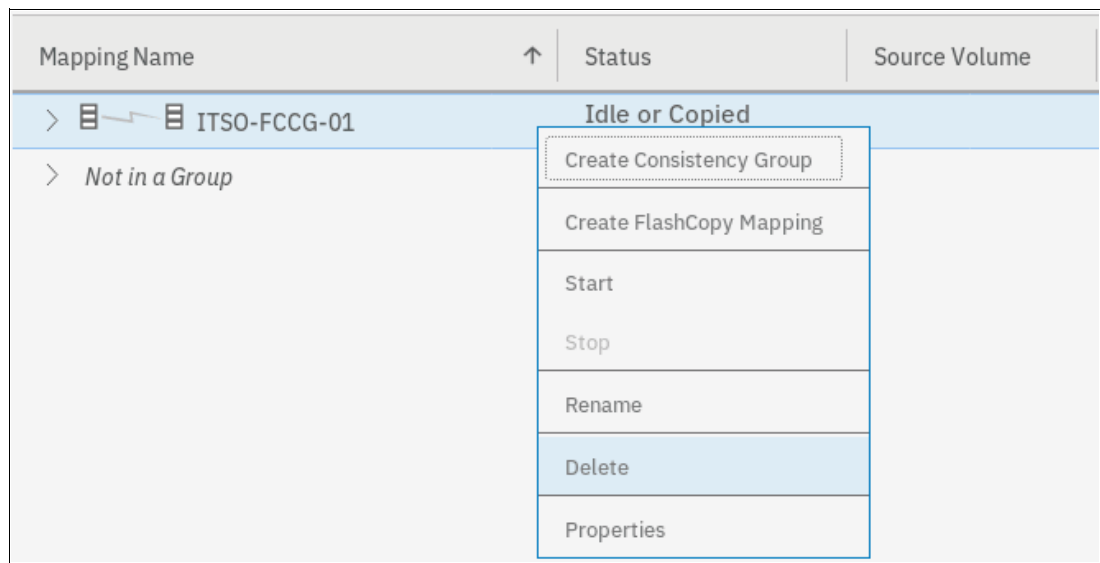

Figure 10-57 Deleting a consistency group
2. Right-click the consistency group that you want to delete and select **Delete**, as shown in Figure 10-57.